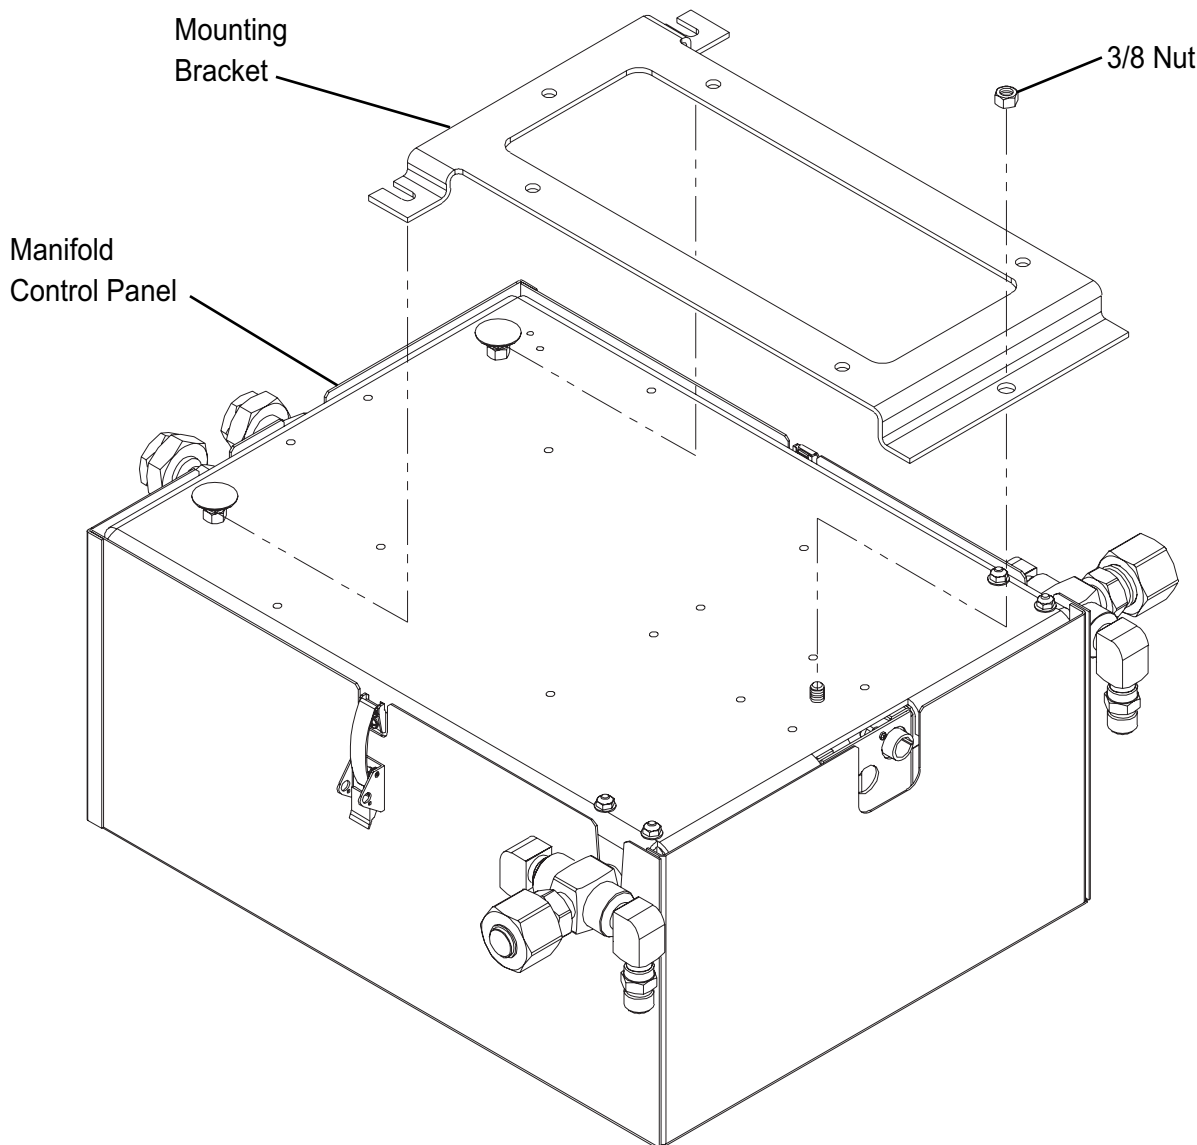

Figure 1
2. Mounting bracket is shipped attached to back of manifold control panel. Remove lower $3/8$ " mounting nut as shown in Figure 1. Pull bottom of bracket away from manifold control panel and slide bracket off two upper control panel mounting bolts.
2. Mounting bracket is shipped attached to back of manifold control panel. Remove lower 3/8" mounting nut as shown in Figure 1. Pull bottom of bracket away from manifold control panel and slide bracket off two upper control panel mounting bolts.